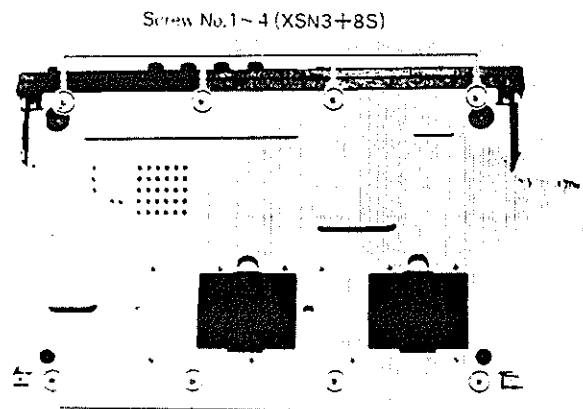

Fig. 6
2. Remove the eight (8) screws (nos. 1~8) for the bottom cover as shown in fig. 6.